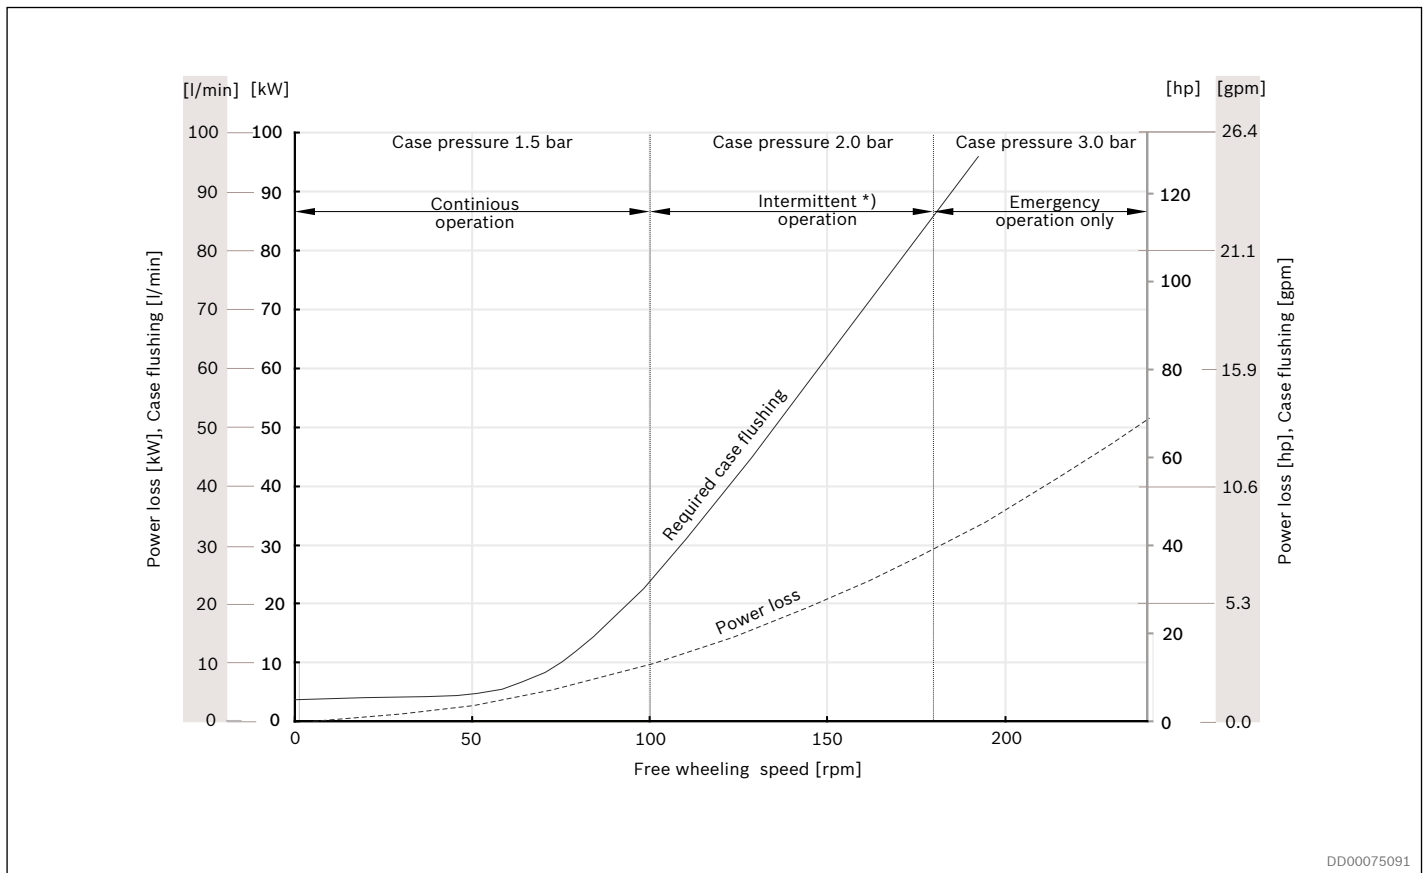

Fig. 63: Power loss freewheeling, oil viscosity 40 cSt (187 SSU)
3. An adequate pressure introduced into the drain ports of the motor. See Fig. 63
Even if the freewheeling operation takes place with lowest possible friction in the main bearings and with no flow losses in the main ports of the motor, a powerloss must take place in the motor case due to viscous friction between moving and fixed parts. This powerloss is expressed in diagram, Fig. 63.
Case flushing is required to prevent overheating, see diagram Fig. 63